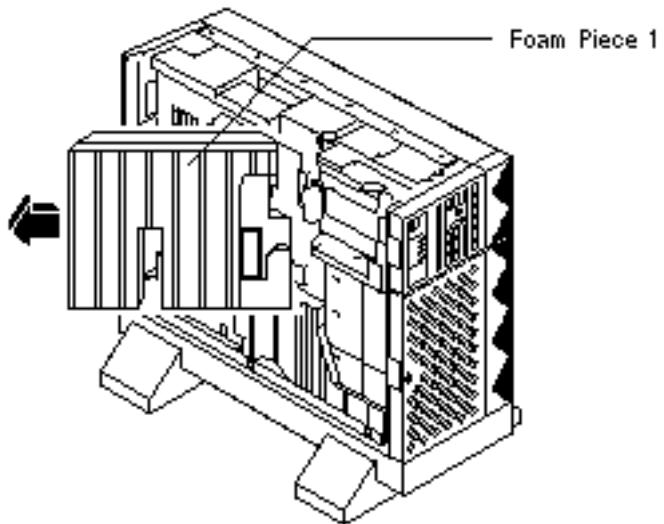

Figure 2-7 Removing Foam Piece 1
**6. Pull Foam Piece 1 away from the Netra 150 server (Figure 2-7).**